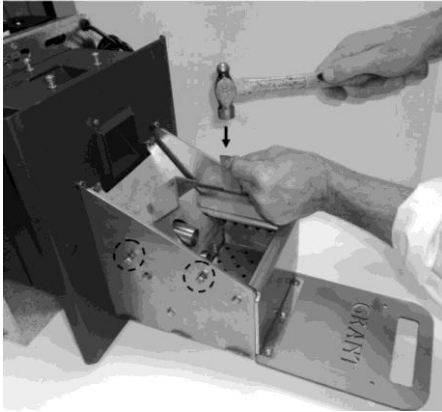

Fig 10.6
- tapping each side of the brazier as shown in fig 10.6, remove the steel strip when finished.